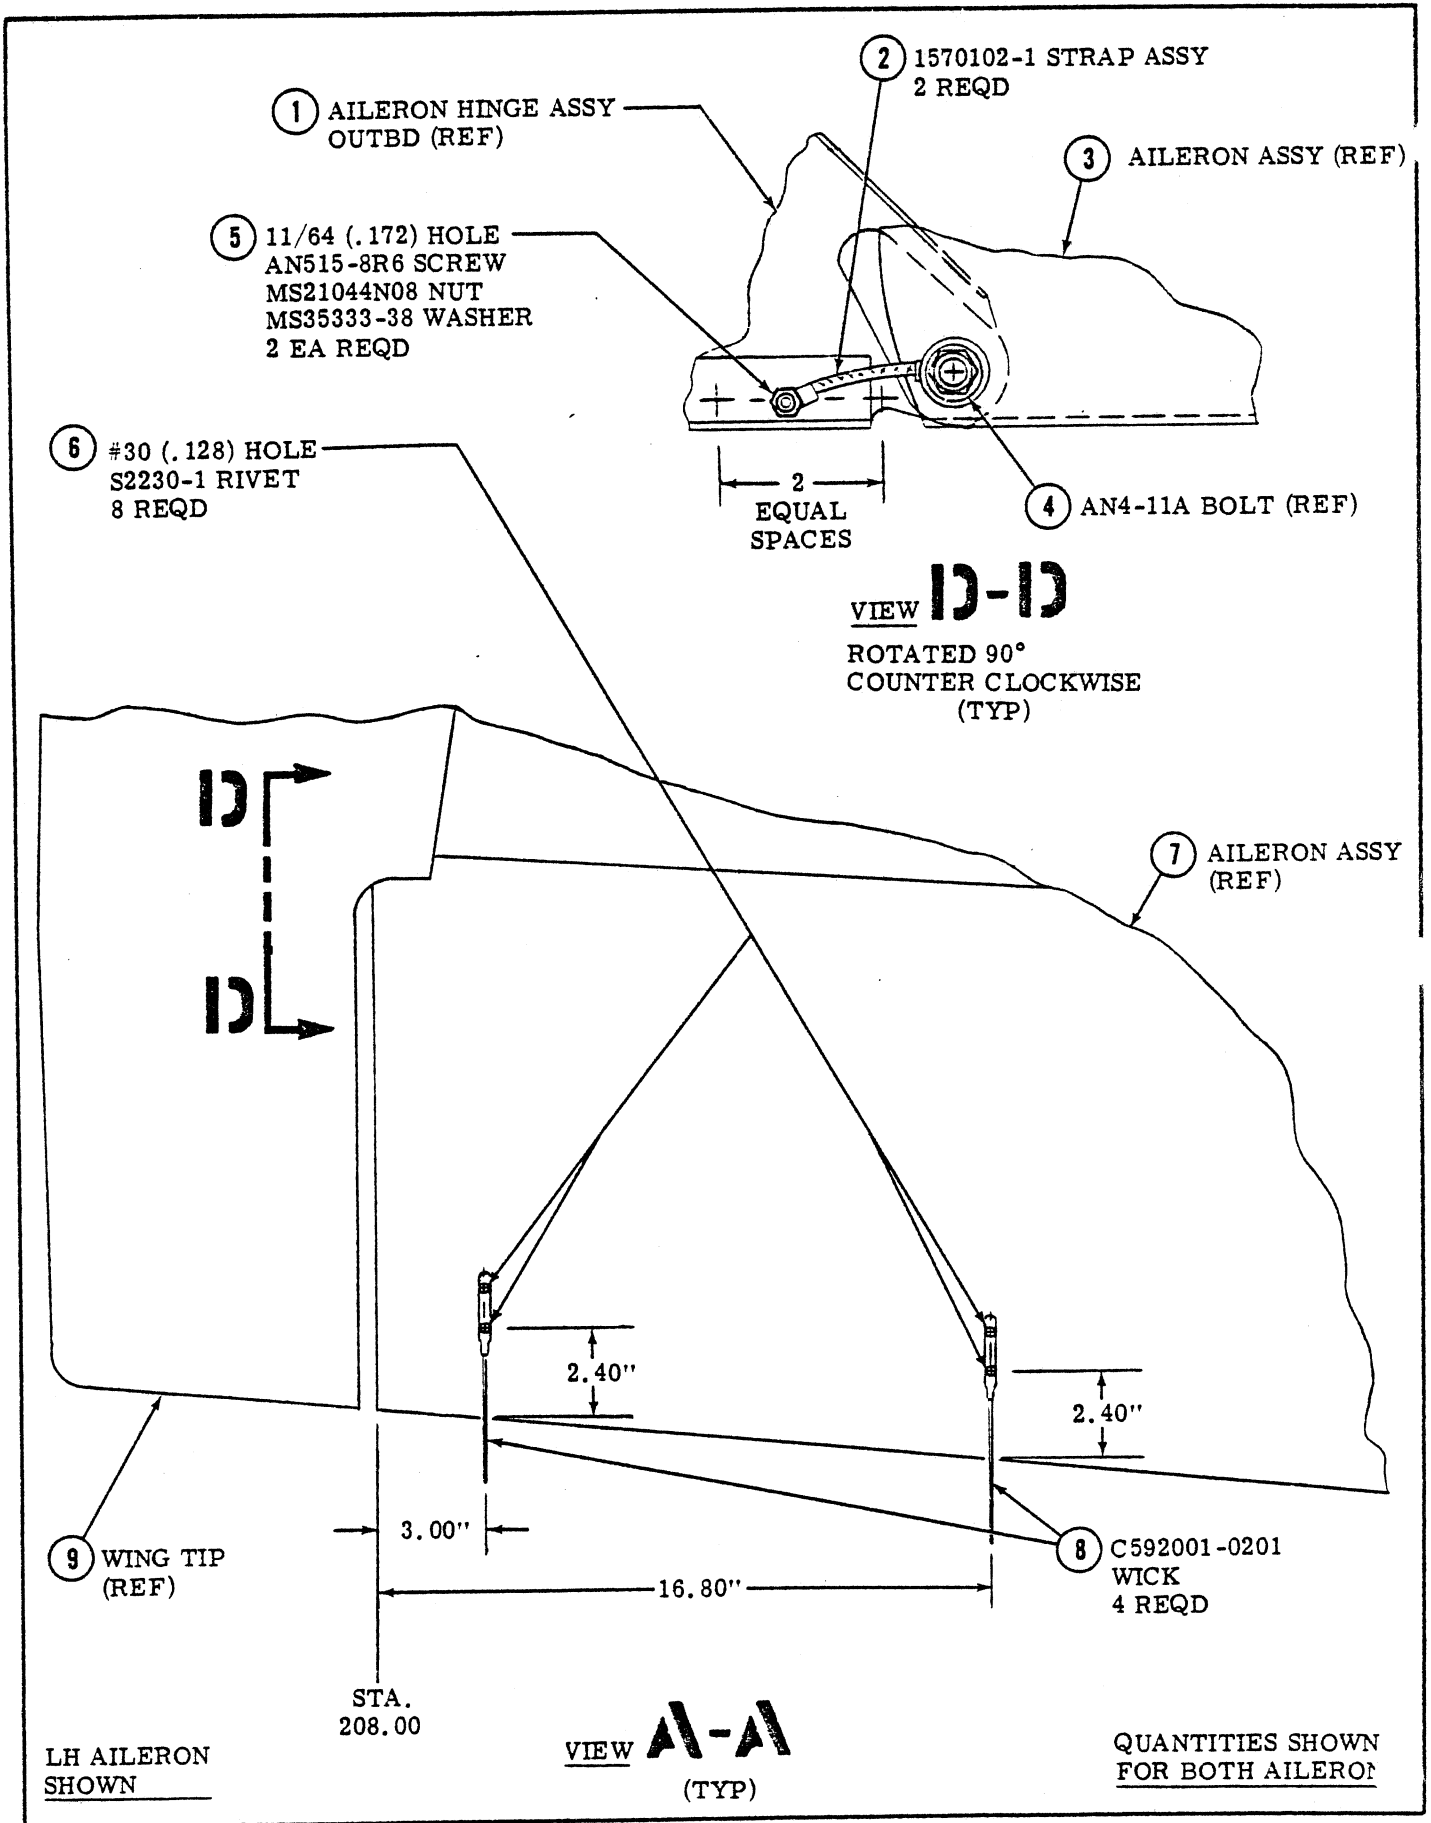
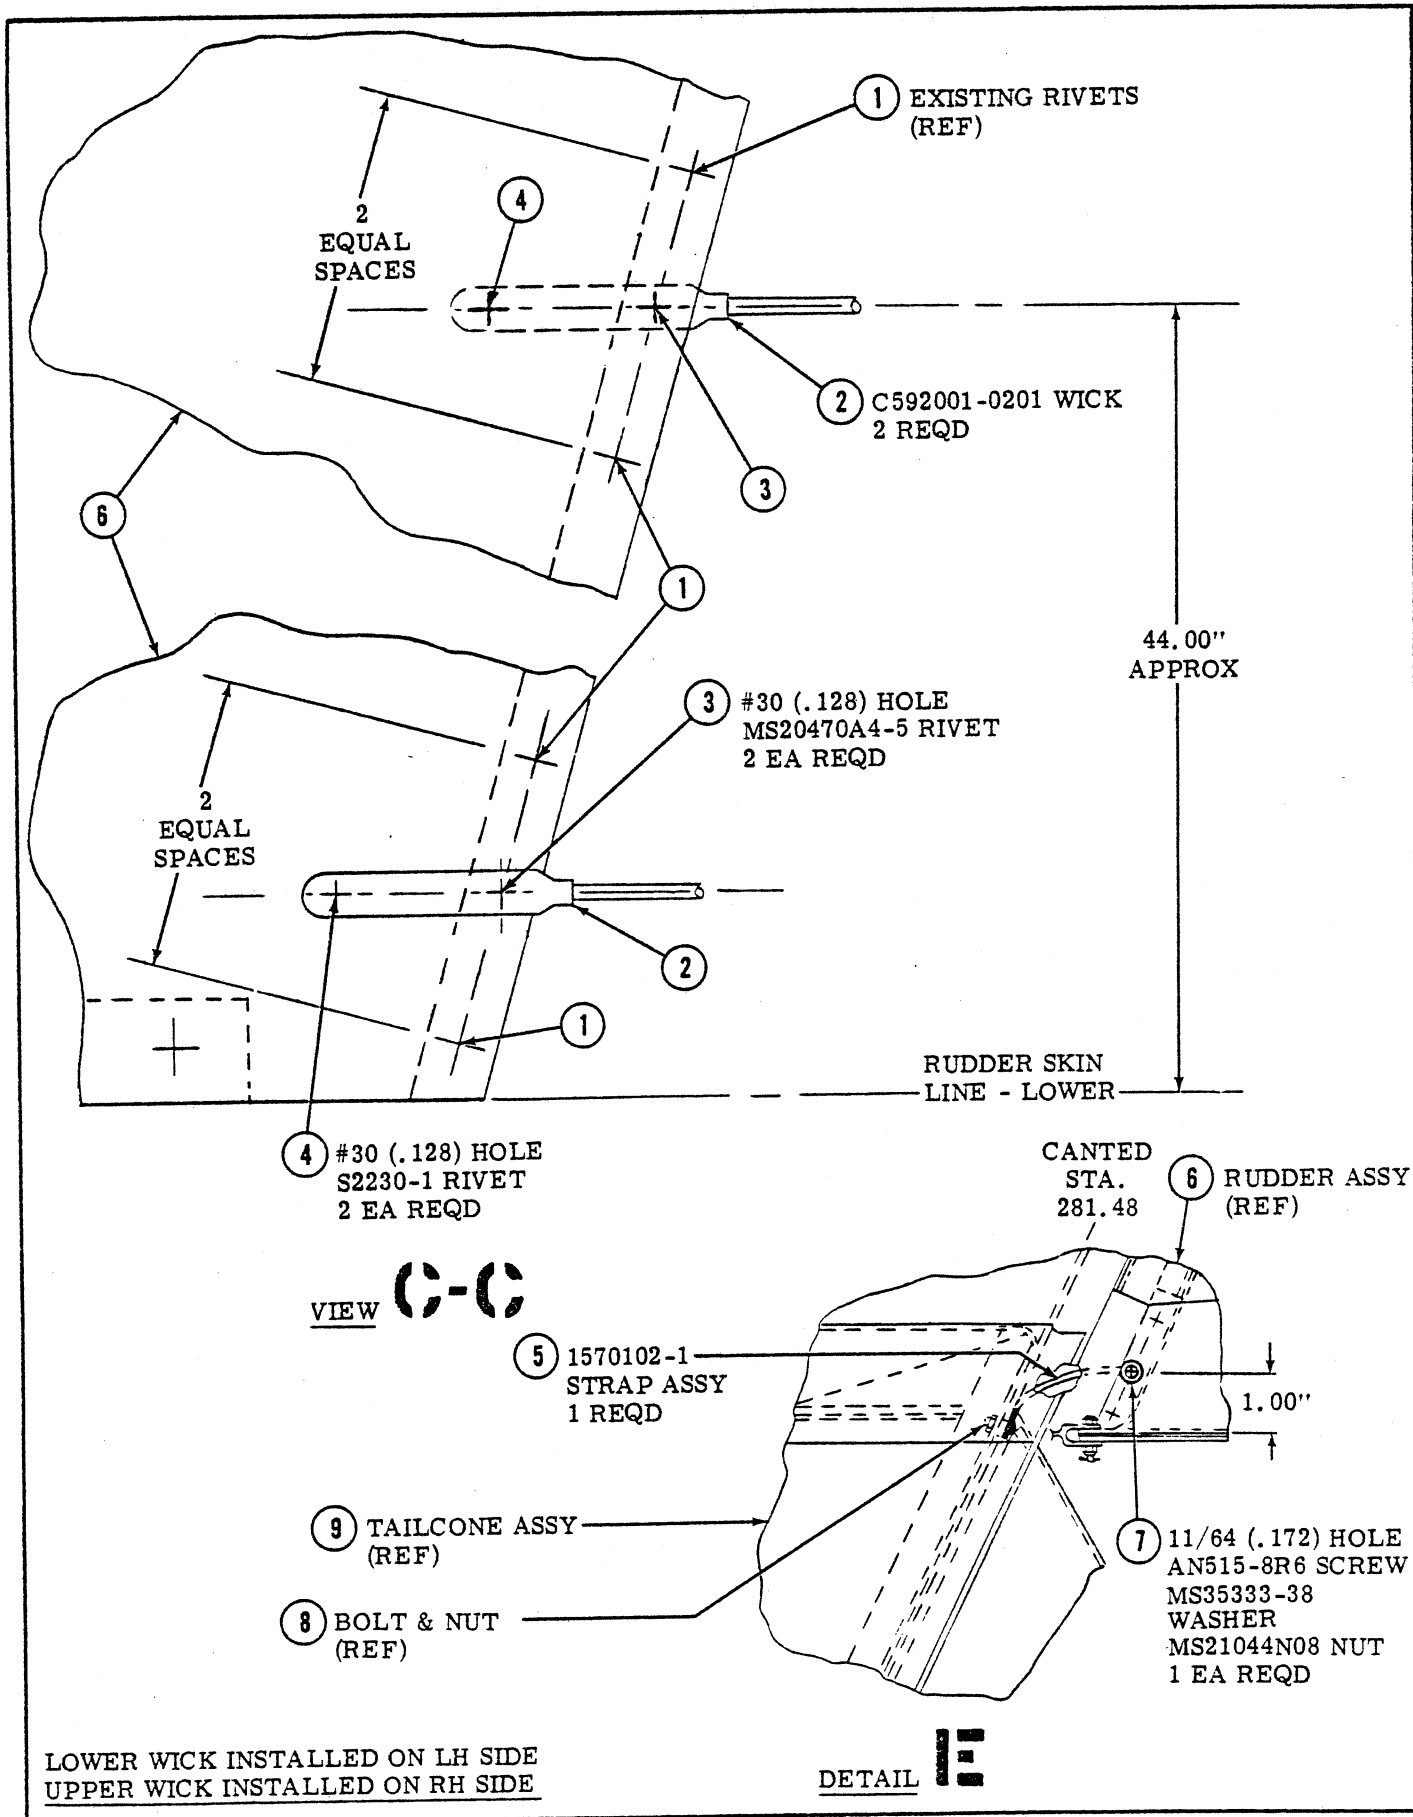

Figure 2. Wick and Strap Installation. (Aileron)
Figure 4. Wick and Strap Installation. (Rudder)
a. (Refer to figure 2.) Wick & Strap Installation - Aileron.
- (1) Remove fasteners securing wing tip (9) to wing structure. Move wing tip sufficiently to gain access to area shown in View D-D.
- (2) Drill hole (5) midway between rivets, as shown, and install small connector of strap (2) securing with screw, washer and nut (5).
- (3) Remove and replace bolt (4) installing the large connector of strap (2). Move ailerons from stop to stop and check for binding and correct if required.
- (4) Using wicks (8) as guides locate, mark, and drill holes (6).
- (5) Install wicks (8) securing with rivets (6).
- (6) Repeat above procedures on opposite aileron.
- (1) Remove fasteners securing stinger and stinger cover plates. Remove stinger and plates from aircraft & retain.
- (2) Drill out second rivet from right that secures stiffener (11) and Plate (14). Enlarge hole size to #10 (.193) as shown in detail F.
- (3) Remove bolt, washer and nut (8) and install strap (9), on RH side of weight arm (15), securing with hardware (8) and to tailcone with bolt and nut (10).
- (4) Move stabilator from stop to stop and check for binding. Correct if required.
- (5) In accordance with dimensions shown locate and remove existing rivets (4).
- (6) Using wicks (5) as guides mark and drill holes (3) in accordance with dimensions shown.
- (7) Install wicks (5) securing with rivets (3 & 4).
c. (Refer to figure 4.) Wick & Strap Installation - Rudder.
- (1) Locate and drill hole (7) on rivet line and in accordance with dimension shown.
- (2) Locate and remove bolt and nut (8).
- (3) Install strap assembly (5) securing with screw, washer and nut (7) and bolt and nut (8). Move rudder from stop to stop and check for binding. Correct if required.
- (4) Using wicks (2) as guides mark and drill holes (3 & 4) in accordance with dimensions shown.
- (5) Install wicks (2) securing with rivets (3 & 4).
- (6) Paint wick bases and touch up control surfaces as required. DO NOT PAINT WICKS.
- (7) Rebalance control surfaces in accordance with the applicable Cessna Service Manual.
- (8) Reinstall wing tips, stinger and stinger cover plates.
- VIEW A - A: AILERON WICK INSTALLATION (REFER TO FIGURE 2)
VIEW C - C: RUDDER WICK INSTALLATION (REFER TO FIGURE 4)
VIEW D - D: AILERON STRAP INSTALLATION (REFER TO FIGURE 2)
DETAIL E: RUDDER STRAP INSTALLATION (REFER TO FIGURE 4)